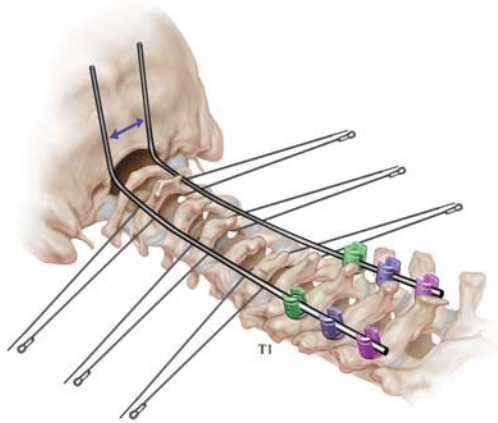

Figure 10a
- Prebent 3.5mm Rod (Figure 10a)
- Place contoured rods in the Minipolyaxial Screw Heads and position along cervical spine and up to the occiput. Once properly positioned, measure the distance between rods at the occiput and select the appropriate occipital implant (Figures 10a and 10b).